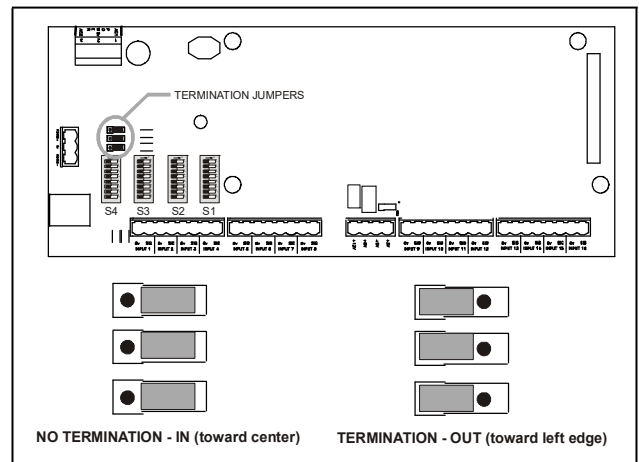

Figure 3-6 - I/O Network Termination Jumper Settings
**Figure 3-6** shows the termination jumper settings for all MultiFlex boards.